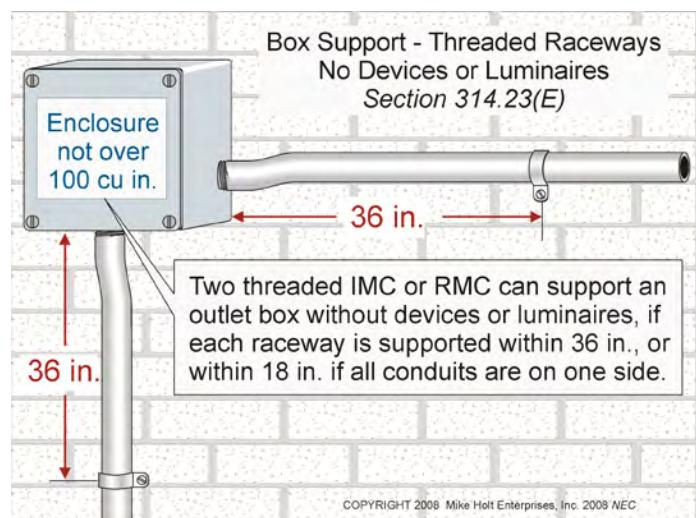

Figure 314–16
- (F) Raceway—Boxes and Conduit Bodies with Devices or Luminaires.** Two intermediate metal or rigid metal conduits, threaded wrenchtight into the enclosure, can be used to support an outlet box containing devices or luminaires, if each raceway is supported within 18 in. of the box. **Figure 314–17**